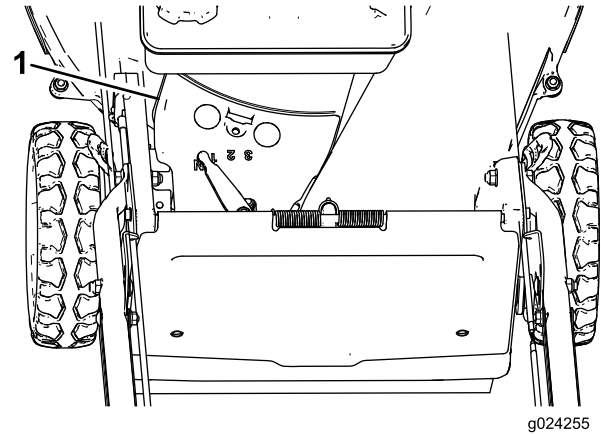

Figure 36
3. Remove the belt cover (Figure 36) from the mower housing.